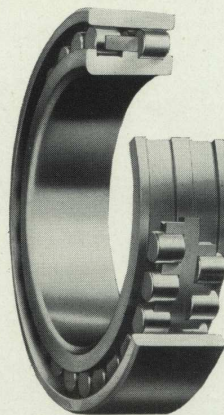

Fig. 3 — SKF Double-Row Cylindrical Roller Bearing
- ★ SKF heavy-duty, high speed, staggered *double-row* cylindrical roller bearing on front end of spindle, Fig. 3.